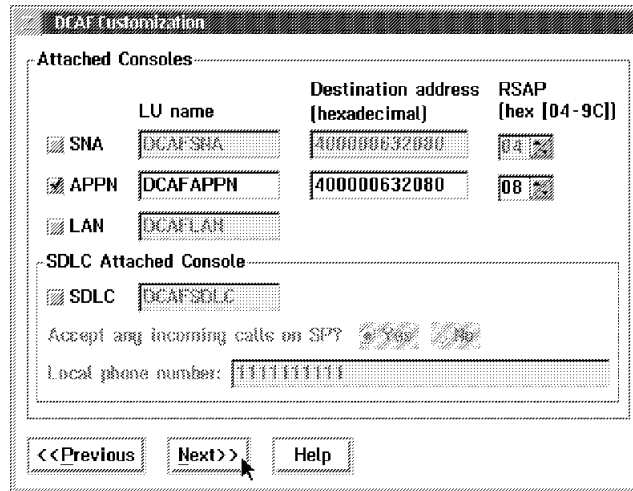

Figure 5-2. DCAF Customization
APPN LU name (Figure 5-2 on page 5-3)	LU name (Step 9 on page 5-6)
APPN Destination address (Figure 5-2 on page 5-3)	LAN Destination address (Step 9 on page 5-6)
RSAP (Figure 5-2 on page 5-3)	Remote SAP (Step 9 on page 5-6)
- b. Second field matches the **APPN LU name** in Figure 5-2 on page 5-3.